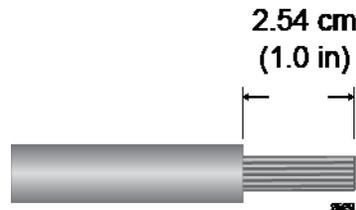

Figure 93. Stripping Solid or Stranded DC Power Wires
1. Prepare adequate lengths of two solid or stranded 8 AWG DC power wires by stripping them as shown in Figure 93.